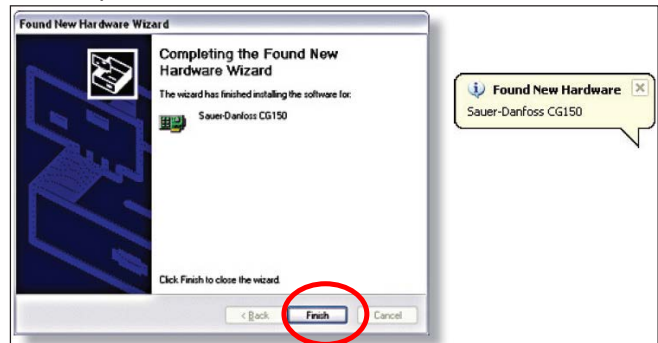

Figure 20. CAN Driver Installation Complete
5. Click "Finish" on the next screen (Figure 20) to complete installation.